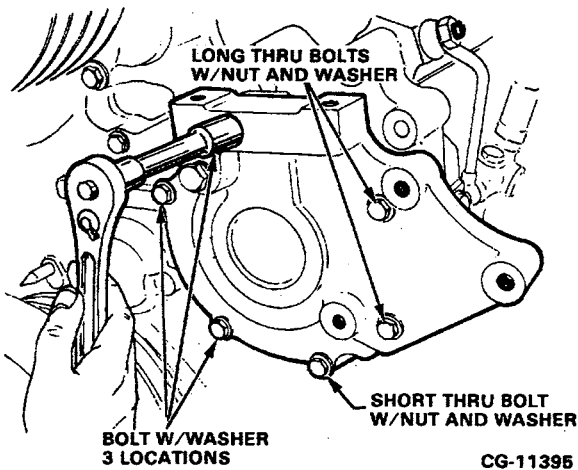

Figure 11.109. Remove Injection Pump Drive Gear Access Cover Bolts (1987 Model Year Shown)
- a. Loosen and remove the six fasteners which secure the access cover. Refer to Figures 11.109 and 11.110.